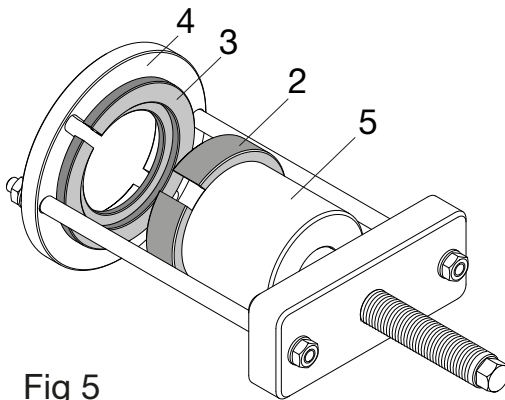

Fig 5
- The new bush must be positioned correctly in all directions; for this reason, ensure the new bush is positioned in the same direction as the old bush came out from. The use of the stepped split ring (2) ensures the new bush is inserted to the correct depth.
- To fit the new bush, first assemble the tool components shown in **Fig 5** and ensure the force screw is clean and well lubricated.